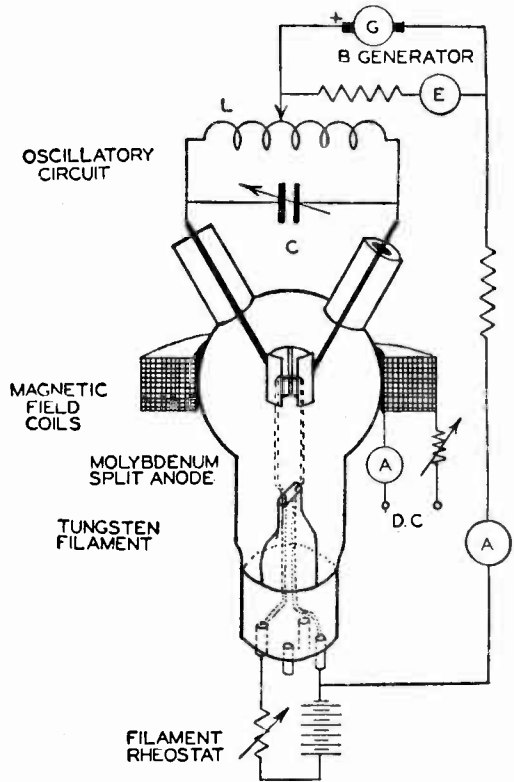

FIG. 4. This is the circuit of the magnetron. The magnetic field about the tube is established by current in the large field coil.
A drawing illustrating the circuit of the magnetron is given in Fig. 4. The large coil surrounding a section of the tube is shown in a cross sectional view. The purpose of the coil is to create a powerful electromagnetic field. The intensity of this field is proportional to the coil current and the number of coil turns. The rheostat in series with the coil and ammeter A controls the current and varies the magnetic intensity. Plate current is indicated by an ammeter (A) in series with the B supply. A voltmeter (E), equipped with a series resistor to extend the range, is used to check the B voltage, supplied by the generator marked G.